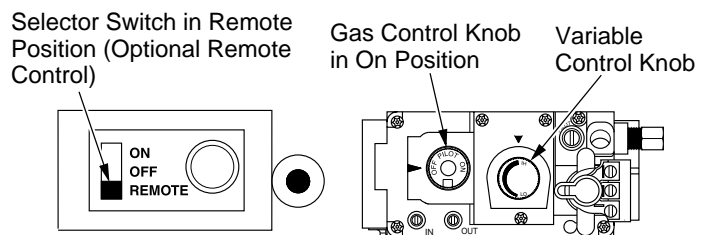

Figure 61 - Setting the Selector Switch, Gas Control Knob, and Variable Control Knob for Remote Operation
1. After lighting, let pilot flame burn for about one minute. Turn control knob to ON position. Adjust flame adjustment knob anywhere between HI and LO. Slide the selector switch to the REMOTE position (see Figure 61). **Note:** The burner may light if hand-held remote was on when selector switch was last turned off. You can now turn the burner on and off with the hand-held remote control unit.